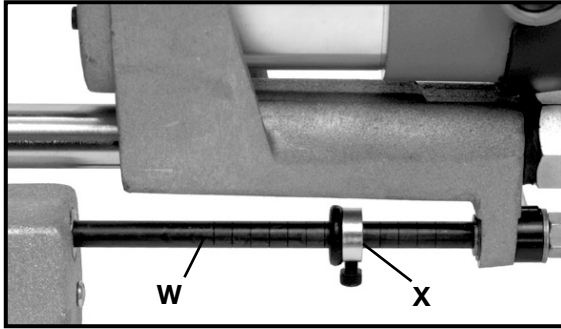

Fig. 7
Measure the lock box at its deepest part, including the thickness of the lock face, and add $\frac{1}{4}$ " (6.4 mm) to this dimension for clearance. The depth of cut is controlled by the feed rod (W) Fig. 7 which is marked in $\frac{1}{4}$ " (6.4 mm) increments. Loosen the collar (X) and move it to the determined depth requirement and lock in place.